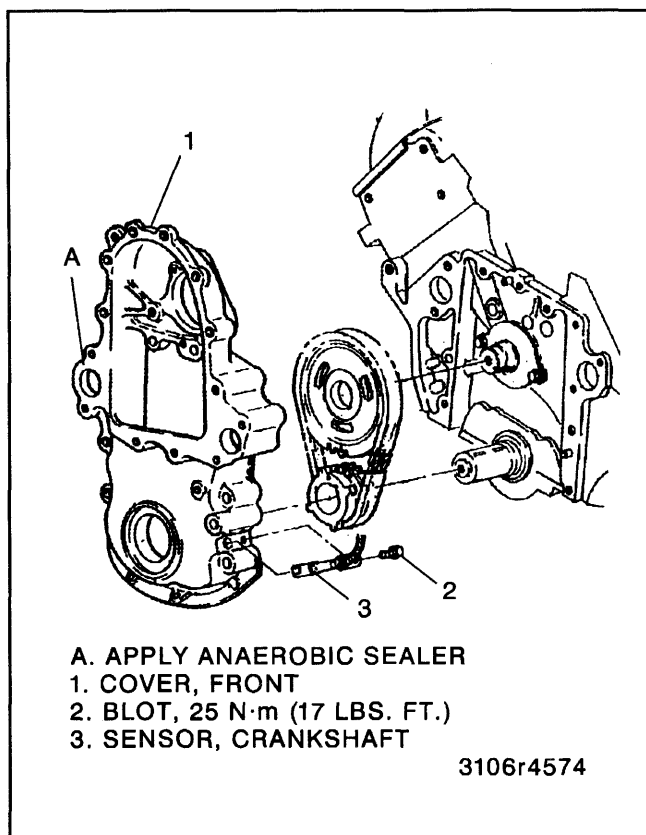

Figure 21—Front Cover and Components
↔ Remove or Disconnect (Figures 21 and 22)
- Apply a 2-mm (3/32-inch) bead of anaerobic sealant (GM P/N 1052357) or equivalent to the front cover sealing area shown in (figure 21).